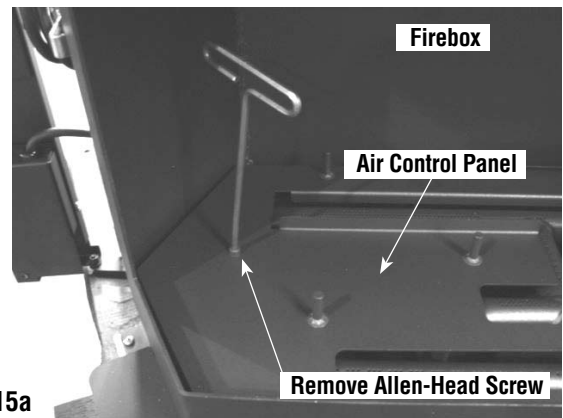
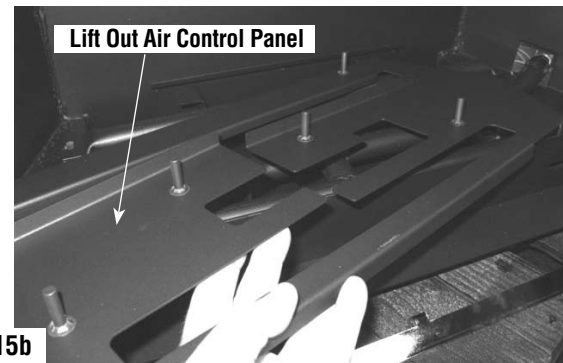

Figure 15a
Figure 15b
2. Using a 5/32" allen wrench, remove the allen-head screw on the left side of the air control panel as shown in Figure 15a, then lift out air control panel as shown in Figure 15b.